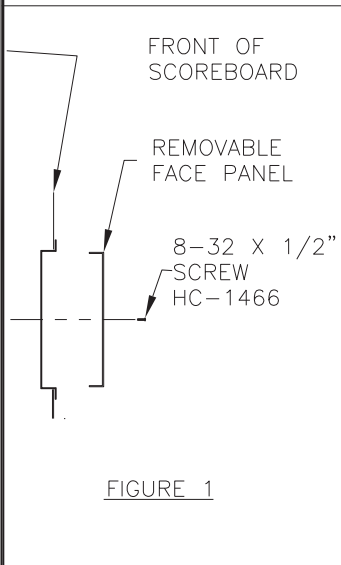

FIGURE 1
1. REMOVE THE HOME/GUEST FACE PANELS FROM THE DISPLAY. REFERENCE FIGURE 1
REFERENCE FIGURE 1